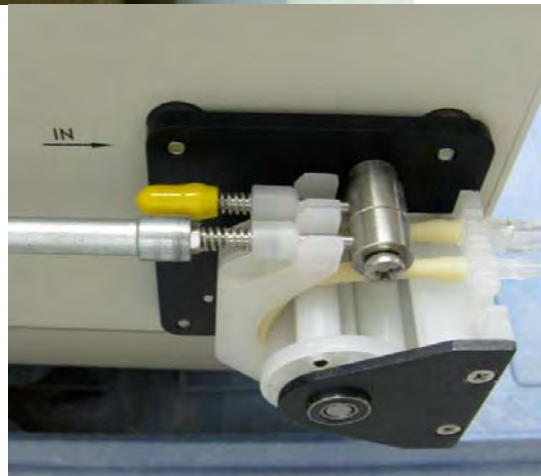

Figure 1-18. Adjustment of the pressure shoe.
17. Occasionally the pump rollers and pressure shoes may begin to wear. There is some self-adjustment inherent to the design, however further adjustment may be necessary. Adjustment of the pressure shoe can be done by removing the yellow covers, and adjusting the 7/32-inch lock nut with a nut driver or wrench. See Figure 1-18.